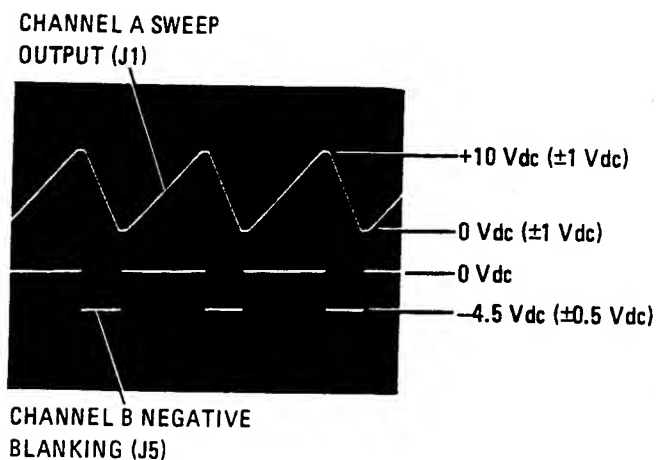

Figure 4-11. Negative Blanking at J5 Compared in Time to Sweep Output at J1
- n. Adjust oscilloscope to display waveforms as shown in Figure 4-11.